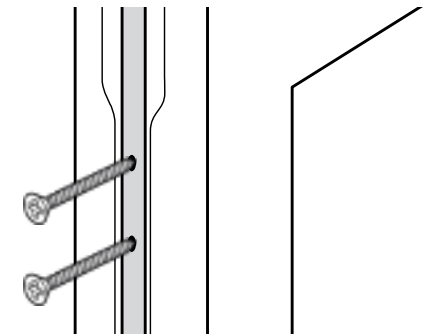

Figure 05: Screw locations on a cords and weights system
Step 2 - The cord (shown in grey in Figure 05) can then be unscrewed on each side allowing the sash to be removed.